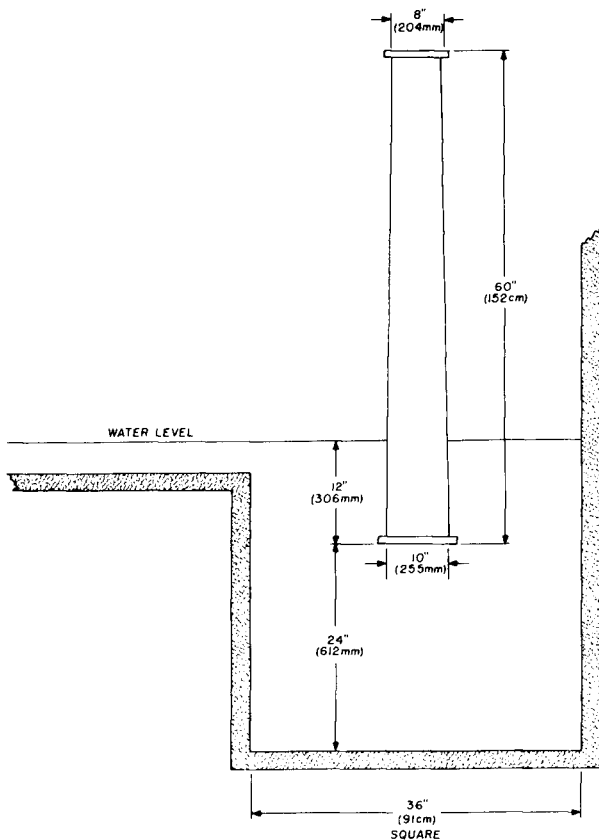

fig. 4. Discharge pipe (or draft tube) assembly and exhaust chamber, which are essential for good turbine efficiency.
**Draft tube.** After the water has passed the impeller, it enters the discharge pipe, which is called a draft tube (fig. 4). This tube, which is a 5-foot (1.5m) vertical pipe, expands from a diameter of 8-inches